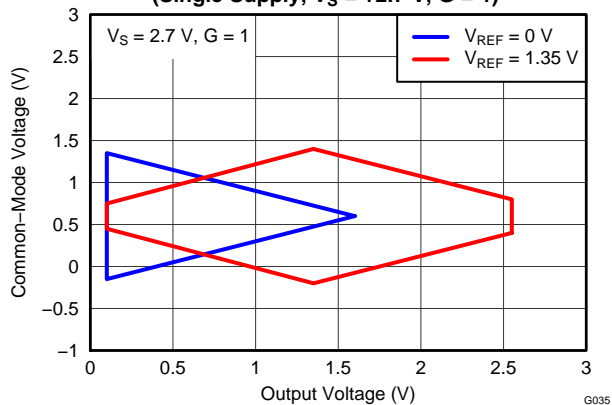

Figure 9.
(1) Total offset, referred-to-input (RTI):  $V_{OS} = (V_{OSI}) + (V_{OSO}/G)$ .
(2) Input voltage range of the INA826 input stage. The input range depends on the common-mode voltage, differential voltage, gain, and reference voltage. See Typical Characteristic curves Figure 9 through Figure 16 and Figure 41 through Figure 44 for more information.